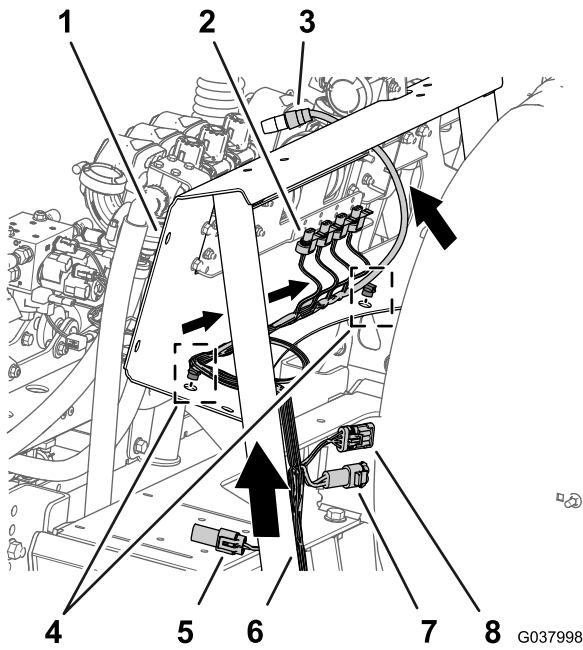

Figure 112
1. Route the 76 cm (30 inches) branch of the wire harness inboard of the support strut for the valve mount and rearward toward the boom-section valves and agitation valve as shown in Figure 112.
2. Insert the push-in fasteners of the 76 cm (30 inches) branch into the holes in the lower flange of the manifold mount (Figure 112).